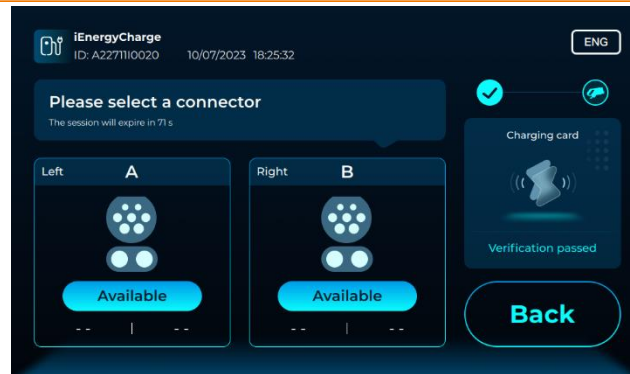

Fig.2-18 Connector selection interface
3. Following a successful card swipe, proceed to the connector selection interface, as shown in Fig. 2-18;